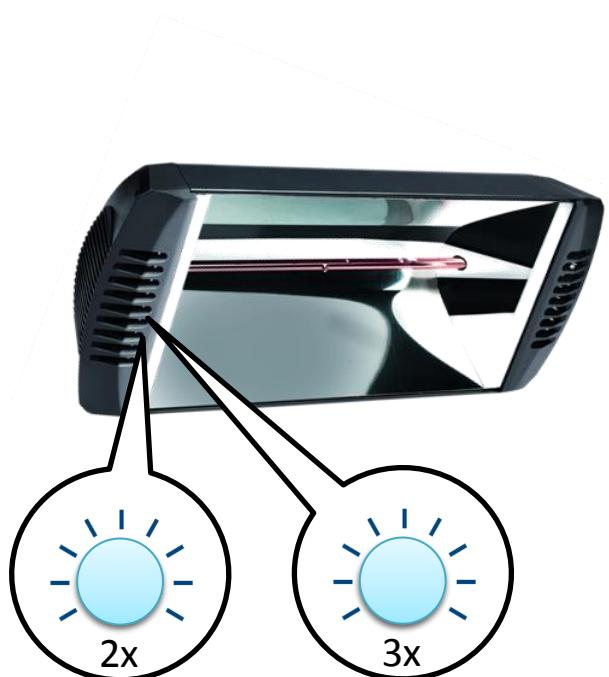

Fig.17
- The blue LED on the heater starts flashing twice to confirm the operation Fig.17